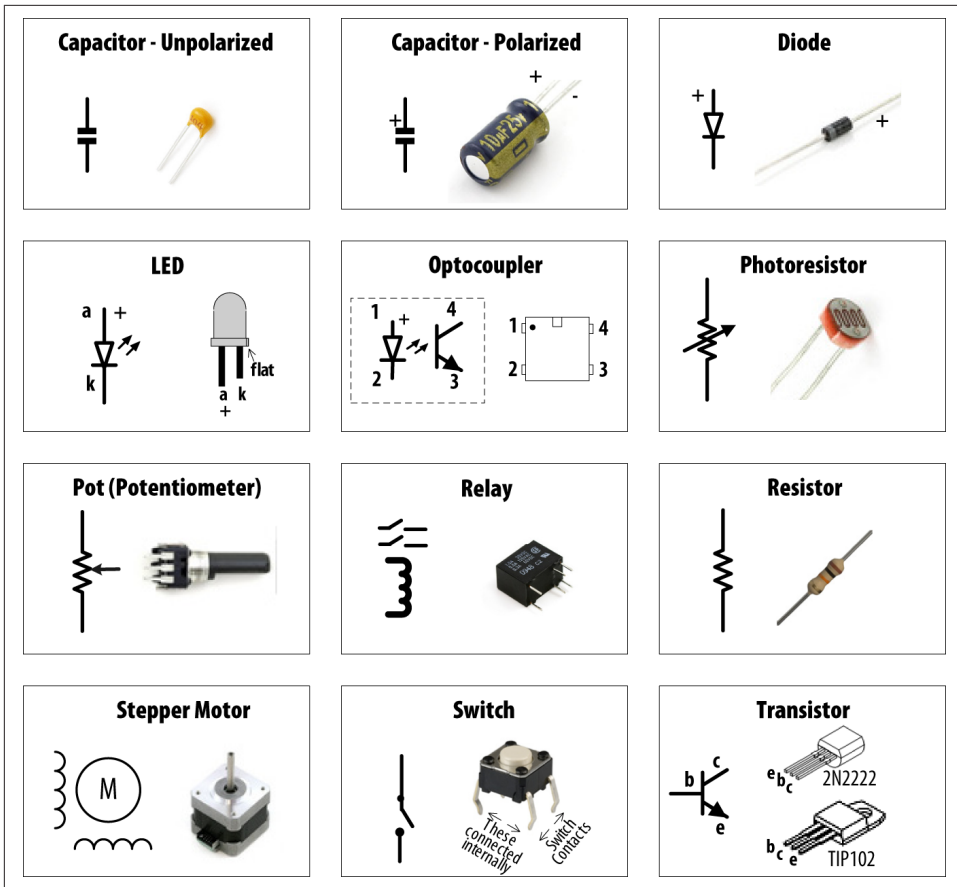
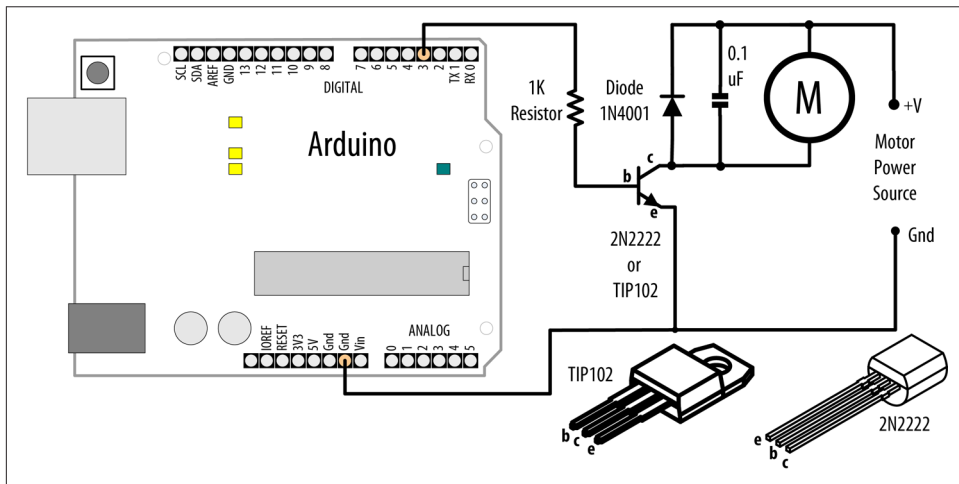

Figure A-1. Schematic representation of common components
Figure B-1. Typical schematic diagram
You can also purchase the individual components for your project, as shown in Figure A-1. The following sections provide an overview of common electronic components.
Diodes permit current to flow in one direction and block it in the other direction. Most diodes have a band (see Figure A-1) to indicate the cathode (negative) end.
Figure A-1 in Appendix A shows some of the most common components, and the symbols used for them in circuit diagrams. Figure B-1 is a schematic diagram from Recipe 8.8 that illustrates the symbols used in a typical diagram.
**Figure B-1** shows an example of a transistor connected to an Arduino pin used to drive a motor. See **Chapter 8** for some recipes that use transistors.
Inductive loads are devices that have a coil of wire inside. This includes motors, solenoids, and relays. The interruption of current flow in a coil of wire generates a spike of electricity. This voltage can be higher than +5 volts and can damage sensitive electronic circuits such as Arduino pins. Snubber diodes are used to prevent that by conducting the voltage spikes to ground. Figure B-1 in Appendix B shows an example of a snubber diode used to suppress voltage spikes when driving a motor.